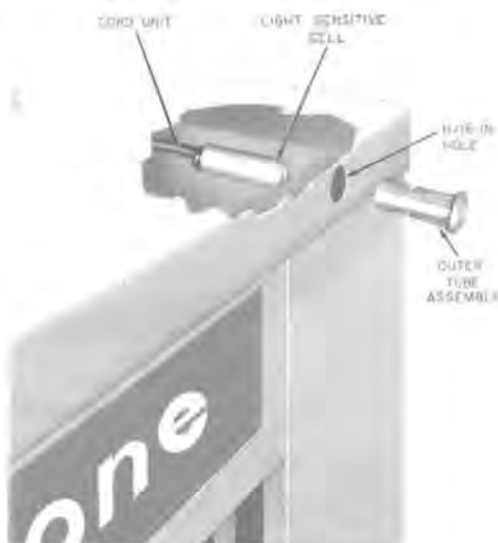

Fig. 7—Method of Installing Light Cell
- (i) Place outer tube assembly (Fig. 2) through roof hole from outside until the tabs lock behind edge of hole (Fig. 7).
- (l) Place outer tube assembly through roof hole from outside until tabs lock behind edge of hole (Fig. 7).